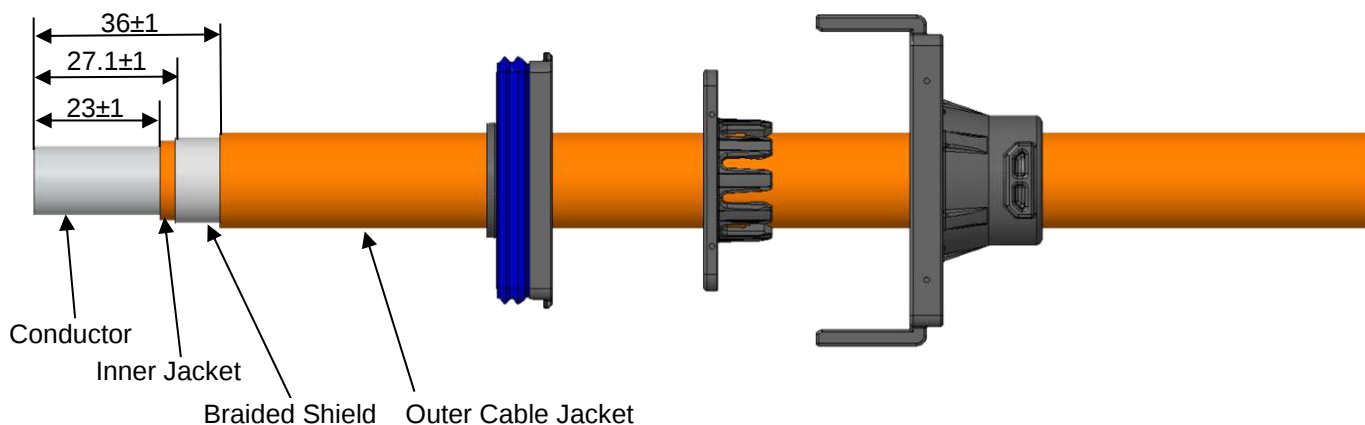

Figure 5: Cable Stripping
2. Strip and remove the outer cable jacket, foil (if present), braided shield, and inner jacket from the plug end as shown in Figure 5.